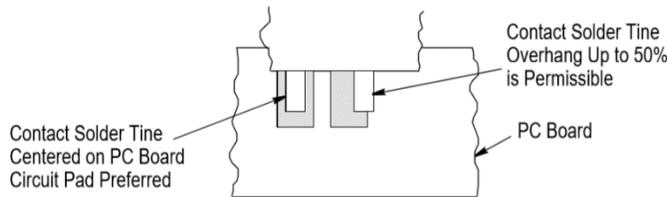

Figure14
2. Surface Mount Connectors Optimally, the contact solder tines should be centered on the PC board circuit pads. However, slight misalignment is permissible as shown in Figure 14.